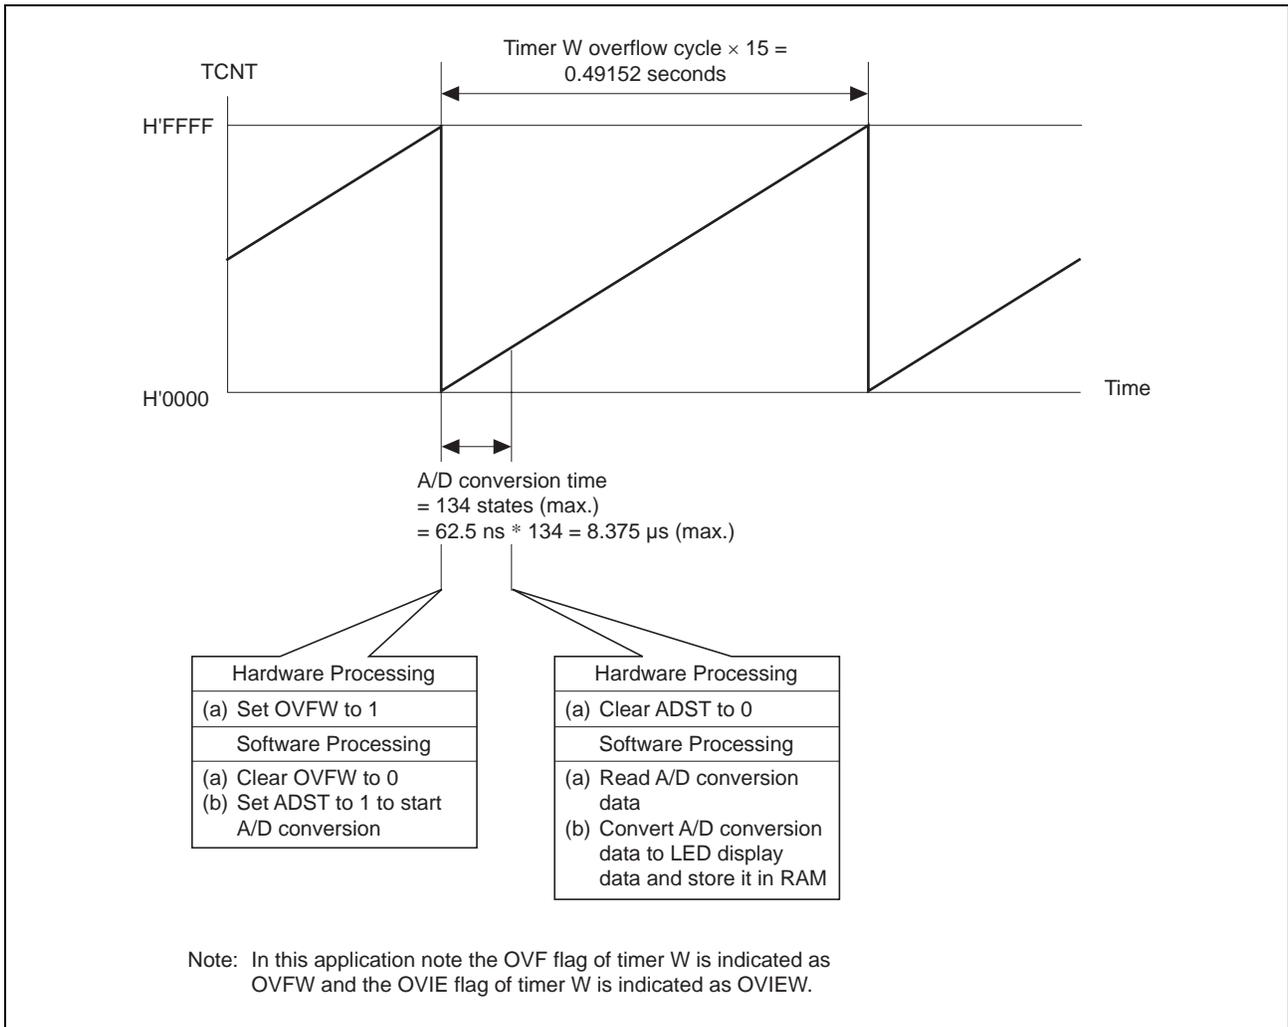

Figure 6 Operating Principle of Remote Control Reception Using Timer W
- (1) The principles of operation whereby A/D conversion of the input to the AN0 pin is performed using timer W are illustrated in figure 6. As shown in figure 6, in this sample task measurement of the A/D conversion cycle (0.49152 seconds) using the timer W overflow flag and determination of the end of A/D conversion in the tmrw routine are accomplished without using A/D converter interrupts.